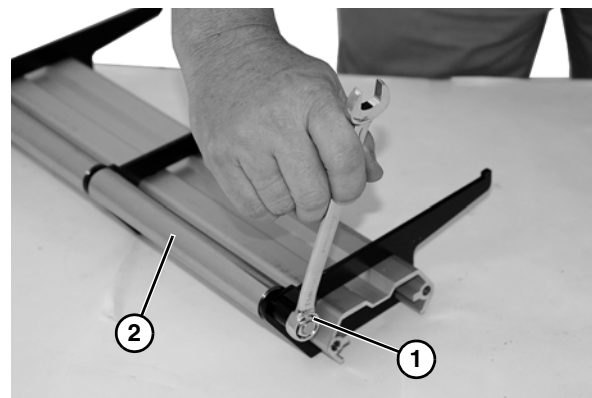

Figure 57
21. Remove nut (**Figure 57, item 1**) from roller axle shaft (**Figure 57, item 2**).